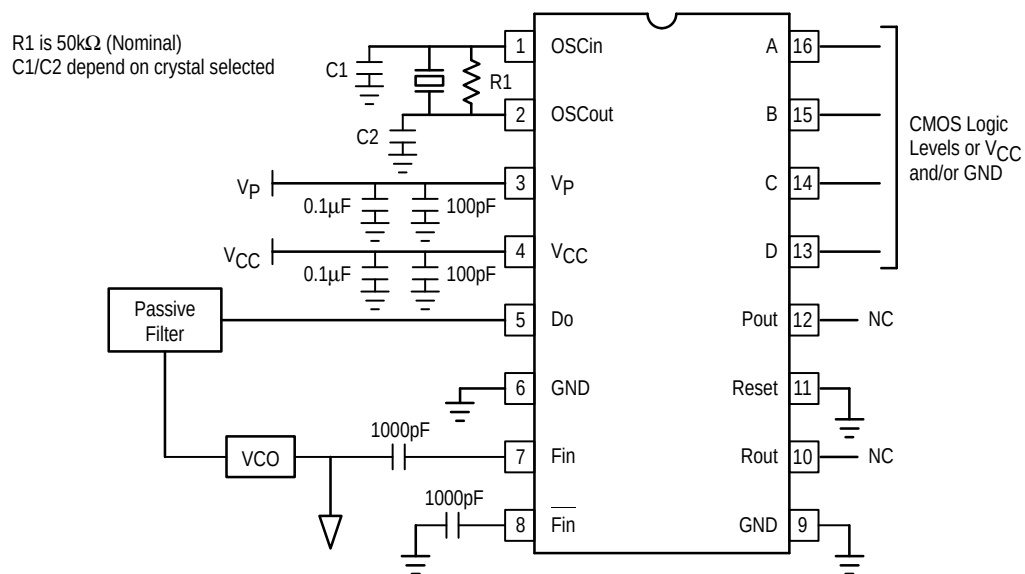

Figure 2. Typical Applications Example
2. Assumes C_1 and C_2 (Figure 2) limited to $\leq 30pF$ each including stray capacitance in crystal mode, AC coupled input for external reference mode.